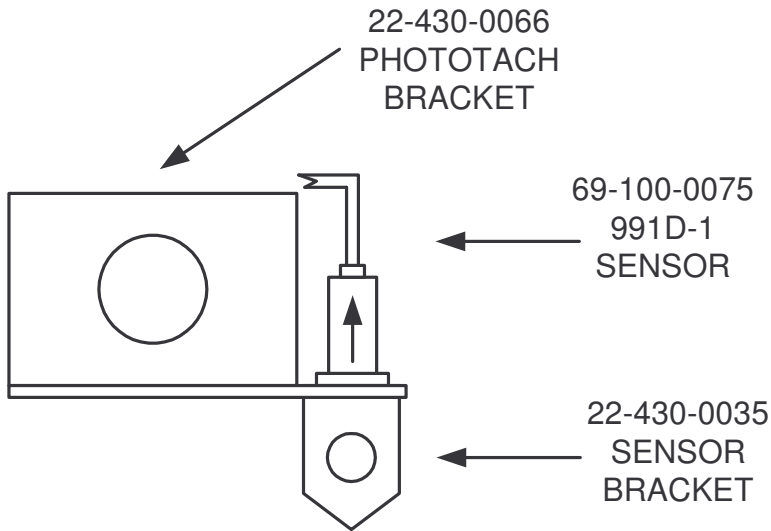

Figure 1
2. Install the Phototach Mount (Item 9) on the stud of the 991D-1 Vibration Sensor (Item 4). Thread the Vibration Sensor into the Vibration Sensor Mount (Item 6). (Figure 1)